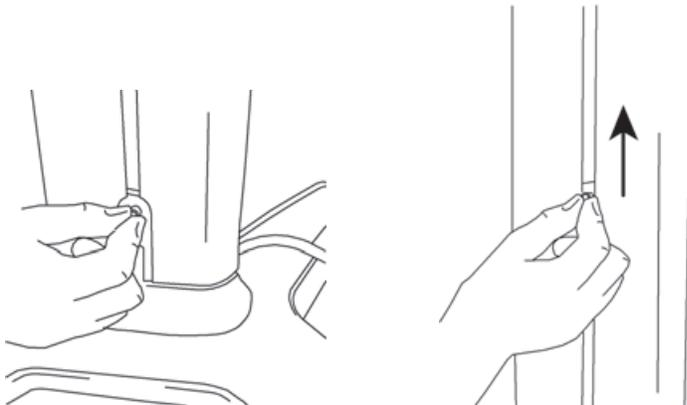

Figure 3 Inserting the nut plate into the groove at the back of the column and sliding it up the column
- 3 Insert the nut plate  into the groove at the lower back of the column, and slide the nut plate up the column. The rubber side of the nut plate faces toward the inside of the column Figure 3 on page 5.